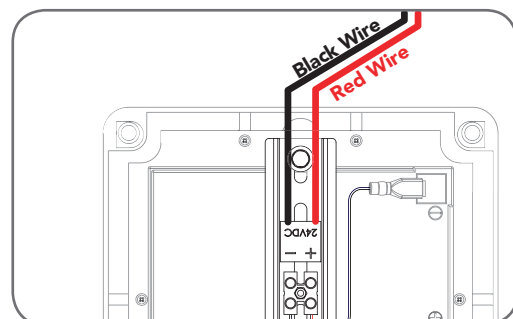

Fig 24
5. Connect the **red wire** to the Battery Box's "**+**" terminal, and the **black wire** to the "**-**" terminal (Fig. 24).